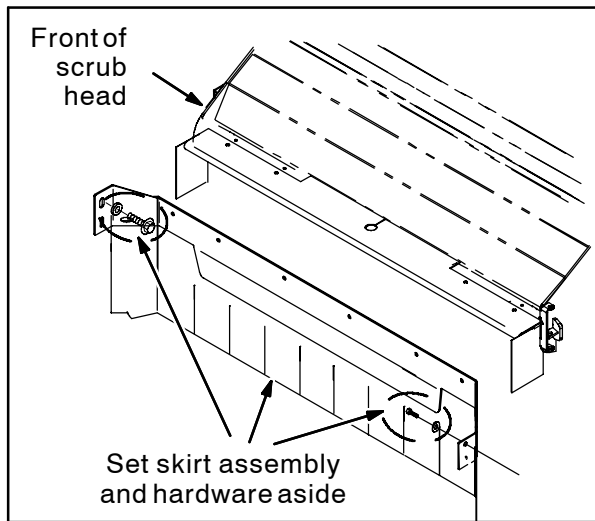

FIG. 11
39. Remove the skirt assembly from the front of the scrub head. Set the skirt assembly and mounting hardware aside. Refer to Fig. 11.